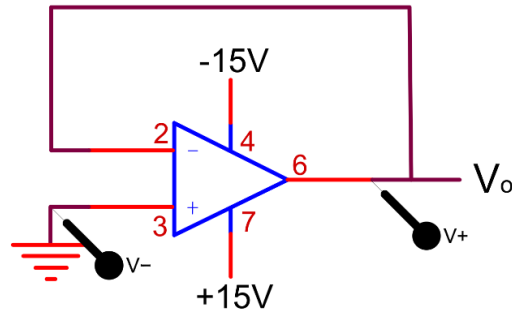

Figure 1.9
1. Construct Figure 1.9 and measure the output voltage, V_o . As discussed in the background information, this is $-V_{OFF}$.